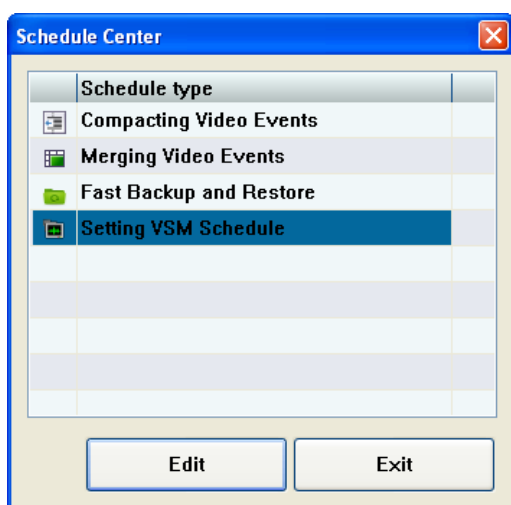

Figure 1-61
1. In the Send Alerts Approach Setup dialog box (Figure 1-61), enable **Default Alert Approach**, select **E-Mail** and click the **Setting** button. This dialog box appears.
1. In the Send Alerts Approach Setup dialog box (Figure 1-61), enable **Default Alert Approach**, select **Hotline** and click the **Setting** button. This dialog box appears.